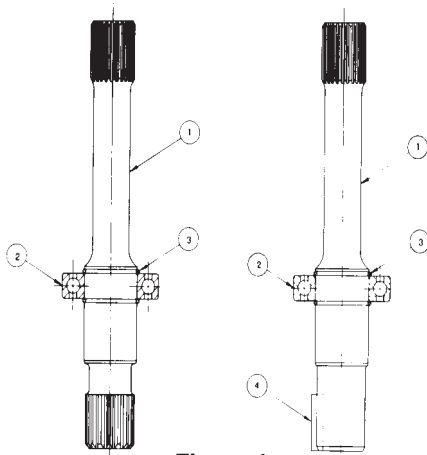

Figure 1
**See figure 1.** Pass one retaining ring (3) over the internal end of drive shaft (1) and install in the groove near the shaft seal surface.
**PARTS LIST FOR FIGURE 1**